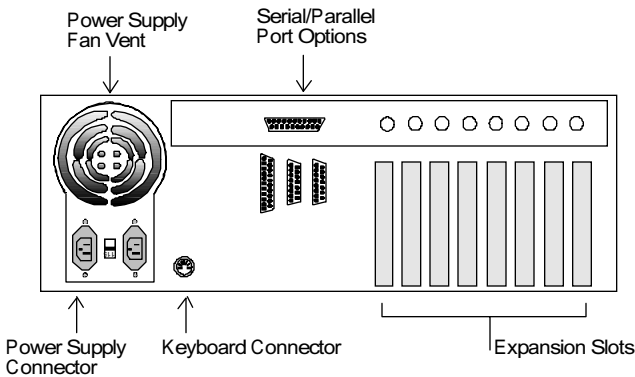

Figure 2-1: The Rear Panel
Remove the protective cardboard insert from the floppy diskette drive(s). Take a moment to study the rear panel (figure 2-1).
- 1) Locate the nine-pin serial port connector on the rear of the case (refer to figure 2-1).